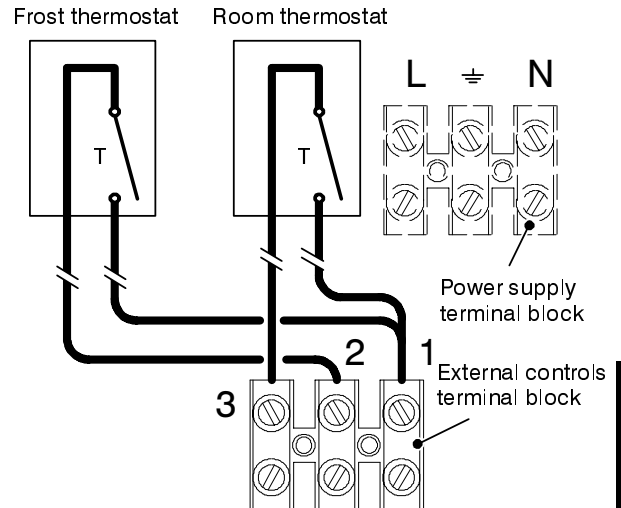

Fig. 6.18
- 10 Connect the frost thermostat between terminals 1 and 2 as shown in Fig. 6.18.